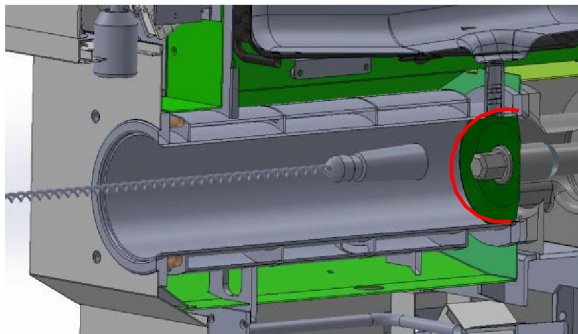

Figure 5-48
2. Using the "B" brush (Brush 143 in Figure 5-50.): Push the brush gently into the shaft gap and the peripheral gap. Press the inner edge of drum and thoroughly clean out any residue, brushing in a clockwise motion as indicated in Figure 5-48.and Figure 5-49.